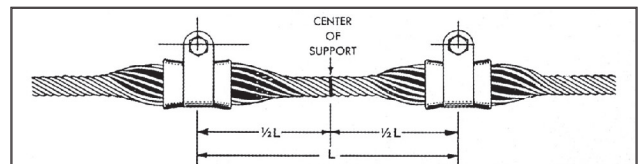

FIGURE 2: HARDWARE SPACING FOR DOUBLE SUSPENSION
2.01 Double Suspensions are typically designed for standard Yoke-Plate connections with hardware kits positioned a relatively short distance apart (18" to 37", see Figure 2 and table 1). **Spread Double Suspensions** are designed to attach to structures with hardware kits positioned various distances beyond the standard yoke plate connection.